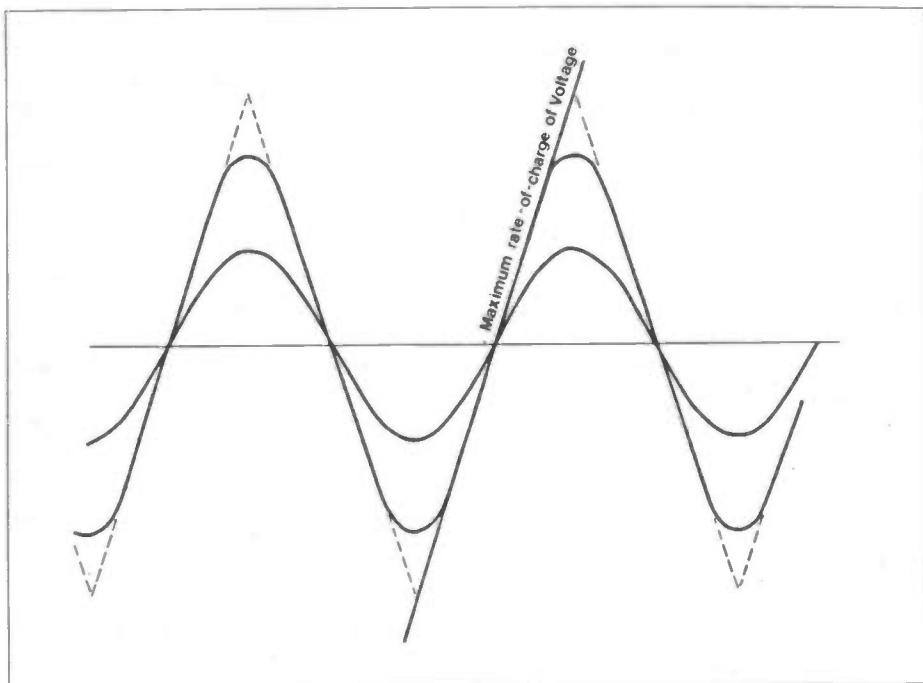

Figure 4. Slew-rate limiting turns sinewaves into triangles.
**SLEW RATE** is the average rate-of-change of the output voltage when a step input signal is applied (Figure 4). Slew rate is usually quoted for an op-amp connected as a unity-gain follower, and typical figures range from  $0.5\text{V}/\mu\text{s}$  upwards.